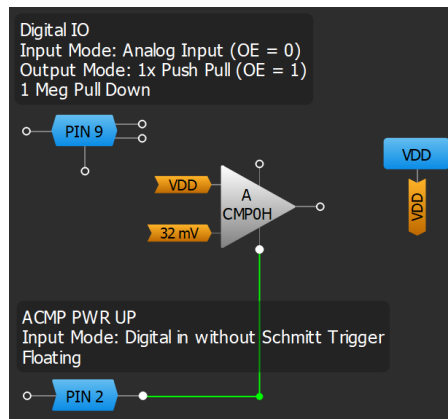

Figure 3: GreenPAK Input Structure Test Schematic
**Figure 3** shows the GreenPAK configured with GPIO4 as a Digital IO with a 1 MΩ pull-down resistor. Since the OE pin is connected to 0 V, this pin is acting as an "Analog IO." As seen in **Table 2**, GPIO4 and VDD are both input options for ACMP0H. In this example, GPIO is being used as a digital input to enable and disable the ACMP.